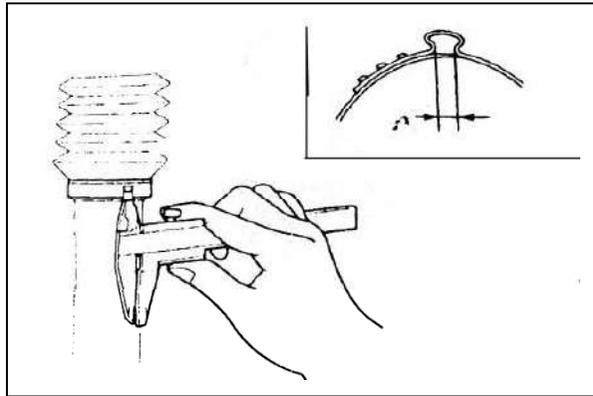

Fig 17-47
$$W = 5.5\text{mm} - A \quad [\text{Example: If (A) is } 2.3\text{mm, (W) is } 3.2\text{mm.}] \quad (\text{See fig 17-47})$$